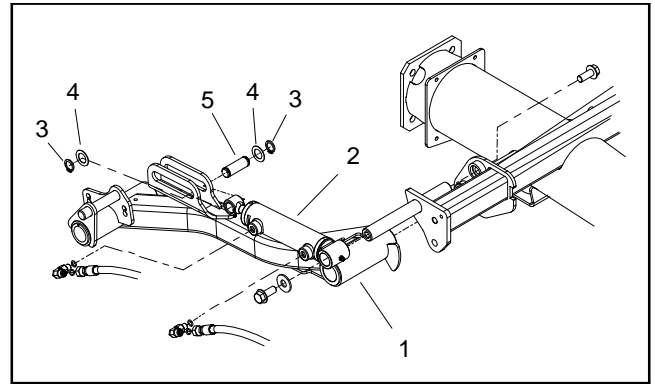
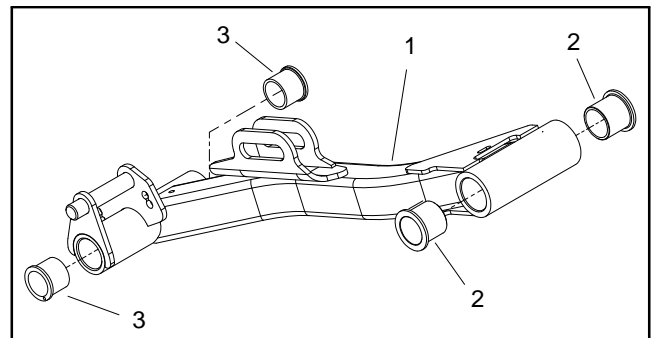

Figure 18
Figure 19
3. Remove one retaining ring (Fig. 18 item 3) and thrust washer (Fig. 18 item 4) from the cylinder pin (Fig. 18 item 5) that secures lift cylinder to lift arm. Pull cylinder pin from the lift cylinder and lift arm. Locate and retrieve second thrust washer.
5. Remove lynch pin (item 17) and slide pivot yoke assembly from lift arm. Locate and retrieve two (2) thrust washers (item 18).
8. Inspect bushings in lift arm and pivot yoke for wear or damage. If necessary, replace bushings (Figs. 19 and 20).
1. Slide front lift arm onto pivot shaft. Secure lift arm with bridge plate. Torque flange screw(s) (item 12) that secure bridge plate to pivot shaft(s) from **67 to 83 ft-lb (91 to 112 N-m)**.
2. Position thrust washer (item 18) onto pivot yoke shaft and then slide pivot yoke into lift arm bushings. Place second thrust washer on pivot yoke shaft and secure with lynch pin (item 17).
3. Align lift cylinder to lift arm mounting slot (Fig. 18). Slide cylinder pin (Fig. 18 item 5) with retaining ring (Fig. 18 item 3) and thrust washer (Fig. 18 item 4) through the lift cylinder and lift arm. Install second thrust washer on pin and secure with second retaining ring.